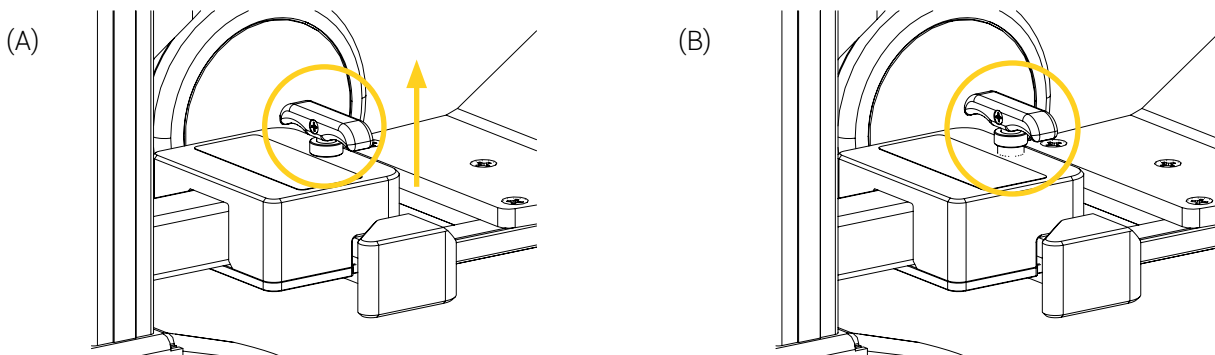

Figure 16 : Quick release mechanism
- If required, disengage the braking system on all four (4) dual wheel swivel casters of the THS Neonatal Cart.
- Pull and maintain the knob of the fold-up hitch quick release mechanism to release the THS coupling device (Figure 16).